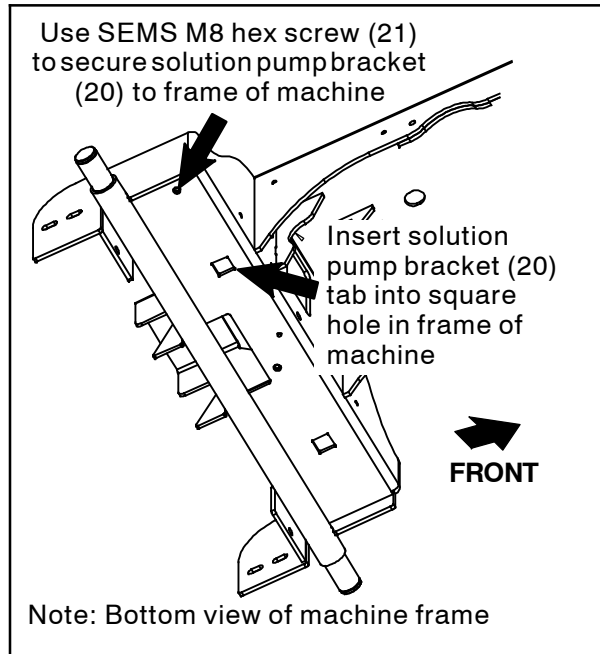
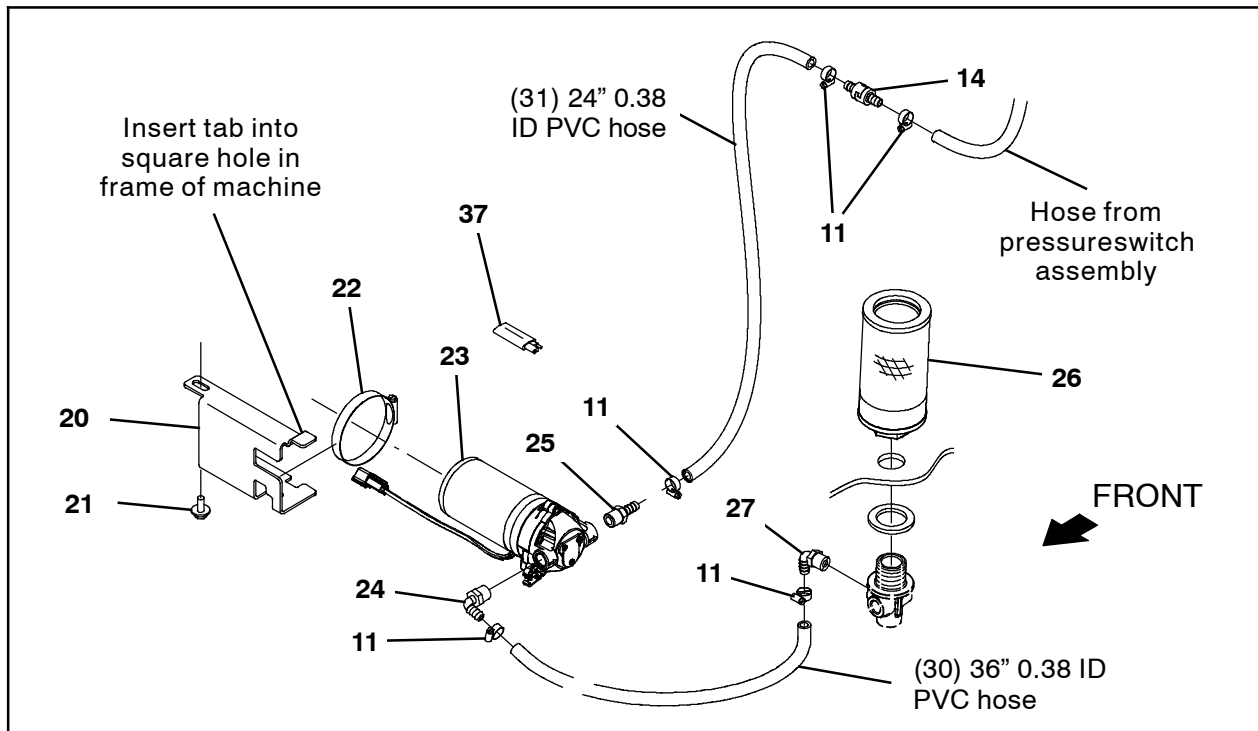
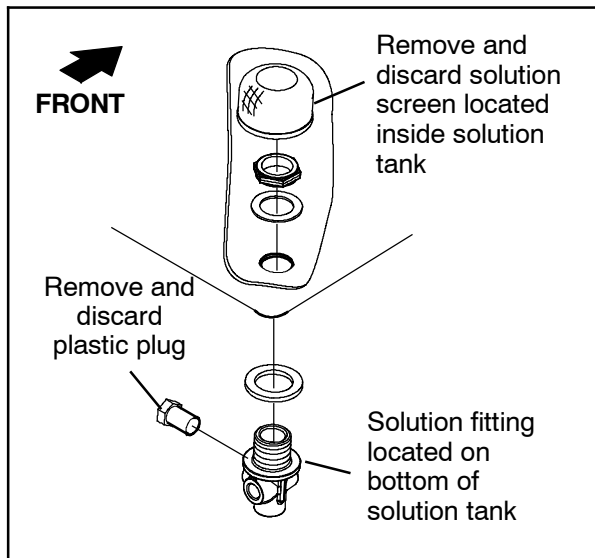

FIG. 3
FIG. 4
FIG. 5
- Install plastic straight fitting (25) and a 90° plastic fitting (24) into the solution pump (23). (Fig. 4)
- Use a hose clamp (22) to install the solution pump bracket (20) onto the solution pump (23). (Fig. 4)
- Insert solution pump bracket (20) tab into square hole in frame of machine and use one SEMS M8 hex screw (21) to secure the solution pump bracket / solution pump (23) onto the frame of the machine. (Fig. 3 / Fig. 4)
- Remove filter screen located inside the solution tank from the solution fitting. Discard the filter screen. (Fig. 5)
- Remove the solution fitting from the bottom of the solution tank. (Fig. 5)
- Remove the plastic plug from the solution fitting. Discard the plastic plug. (Fig. 5)
- Install the 90° plastic fitting (27) onto the solution fitting. (Fig. 4)
- Reinstall the solution fitting onto the bottom of the solution tank. (Fig. 4 / Fig. 5)
- Install the new filter screen (26) into the solution tank. (Fig. 4)
- Use a hose clamp (11) to connect the 36" 0.38 ID PVC hose (30) to the 90° plastic fitting (27) on the solution fitting. (Fig. 4)
- Route the 36" 0.38 ID PVC hose (30) along the back axle and to the solution pump (23).
- Use a hose clamp (11) to connect the 36" 0.38 ID PVC hose (30) to the plastic straight fitting (25) on the solution pump (23). (Fig. 4)
- Route the 24" 0.38 ID PVC hose (31) connected to the pressure switch assembly to the solution pump (23). (Fig. 4)
- Use a hose clamp (11) to connect the 24" 0.38 ID PVC hose (31) to the straight fitting (25) on the solution pump (23). (Fig. 4)